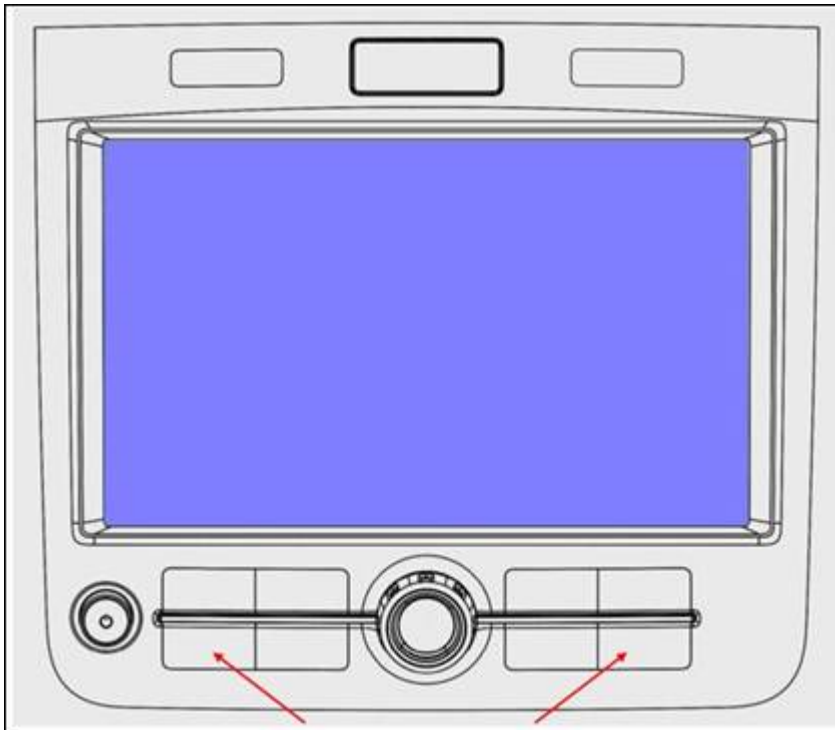

Figure 1
- Push and hold the **SETUP** and **PHONE** buttons simultaneously for 5 seconds (See Figure 1).